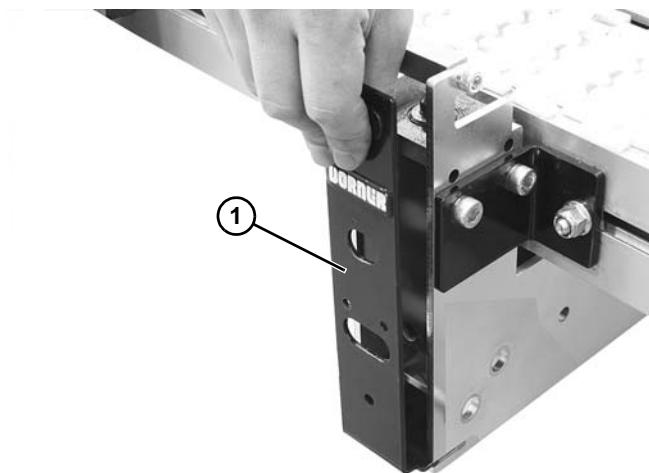

Figure 60
4. Remove side cover (**Figure 60, item 1**).